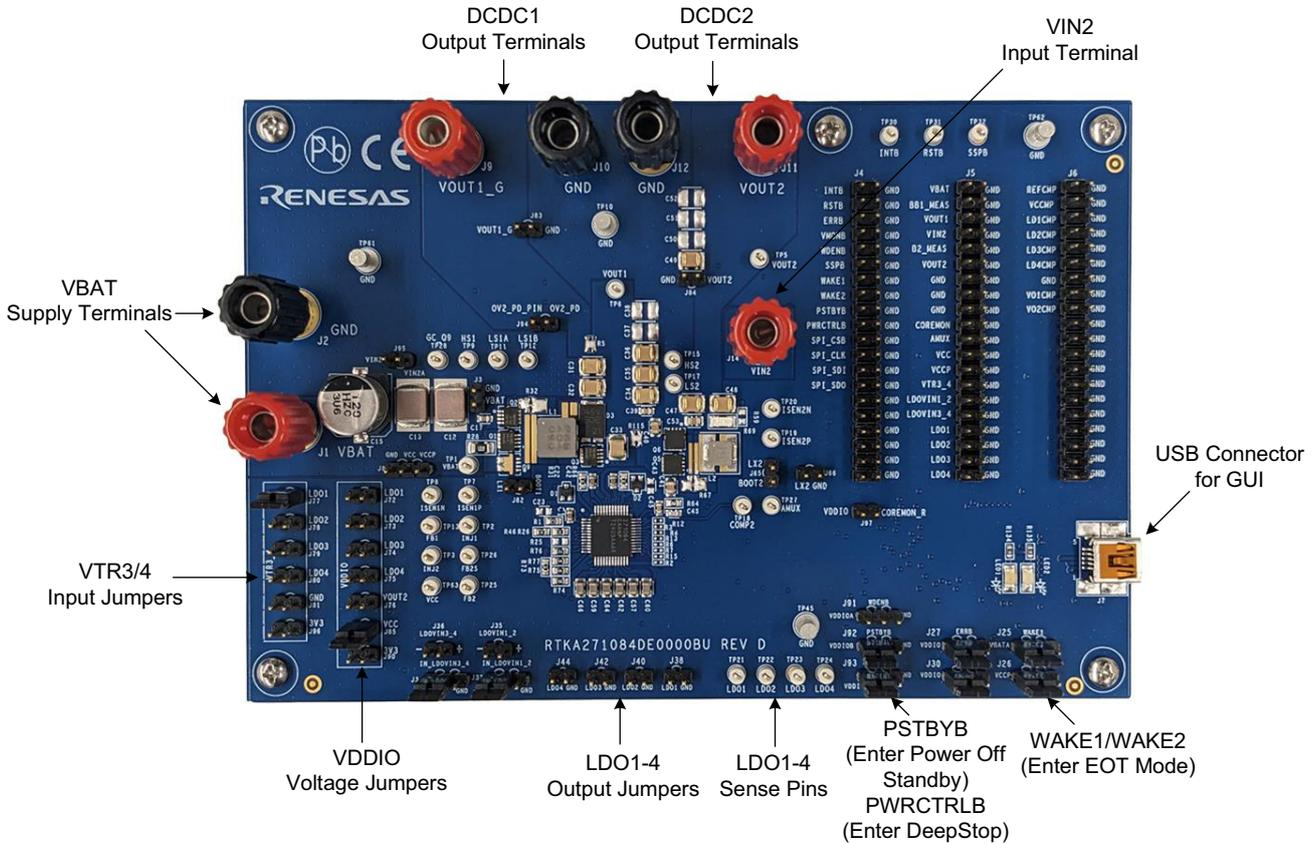

Figure 2. RAA271084 Evaluation Board: Connections, Headers, and Test Points
The evaluation board with connections, headers, and test points is shown in Figure 2.
- To start the board, apply the input voltage ($2.7V < V_{IN} < 42$) to the VIN supply terminals J1(+) and J2(-) (see Figure 2).
- For EN control, use WAKE1 and WAKE2 at J25 and J26 (see Figure 2).
- For VDDIO voltage supply, use the VDDIO voltage jumpers to select the supply source (see Figure 2).
- For tracker reference input, use the VTR3/4 Input jumpers to select the supply source (see Figure 2).
For manual control of EN, ensure that the J25 and J26 jumpers are not installed. WAKE1/WAKE2 enables the IC (see Figure 2).